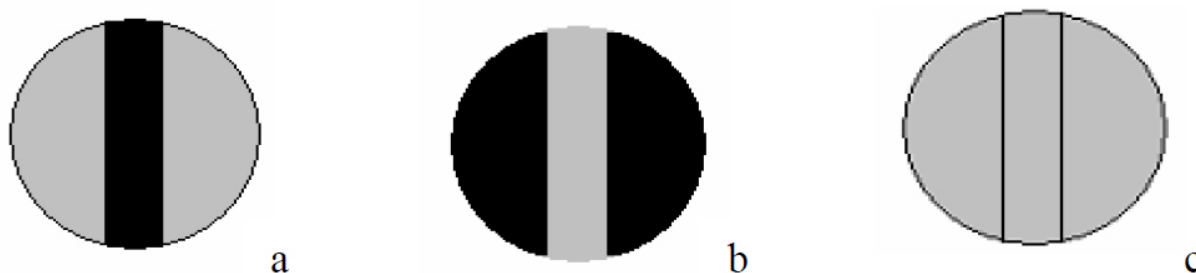

Fig.2
Normally the polarizer and the analyzer are placed so that their polarization planes are parallel or perpendicular to each other. When no sample has been put in the test tube the triplex viewing field should be uniformly bright in the parallel case (see fig. 2 c) or uniformly dark in the perpendicular case. To tare the system rotate the scale knob (8), controlling the scale (7) and the polarization analyzer (5), until all three fields has the same light intensity as in fig. 2 c.
Fig. 2 a,b) The viewing field after having inserted the liquid to be tested and before adjusting the polarization analyzer. c) The viewing field when no sample has been inserted. After having rotated the polarization analyzer: The illumination intensity is here equal.